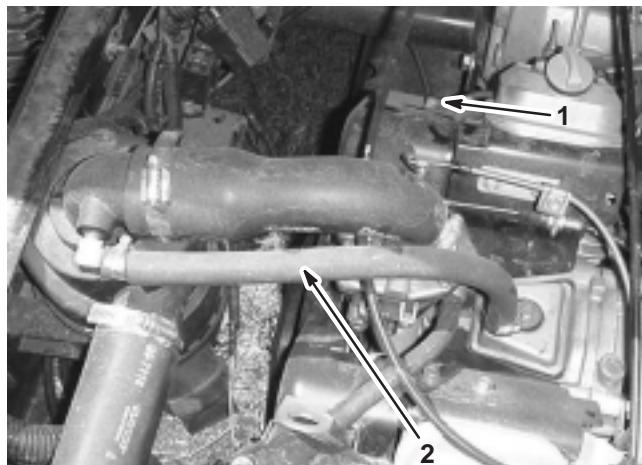

Figure 11
3. Install a new pipe plug into the hole in the back of the engine shroud from which you removed the fitting (Fig. 11).
4. Connect the new breather hose from the air cleaner to the breather fitting on the center of the engine crankcase (Fig. 11).